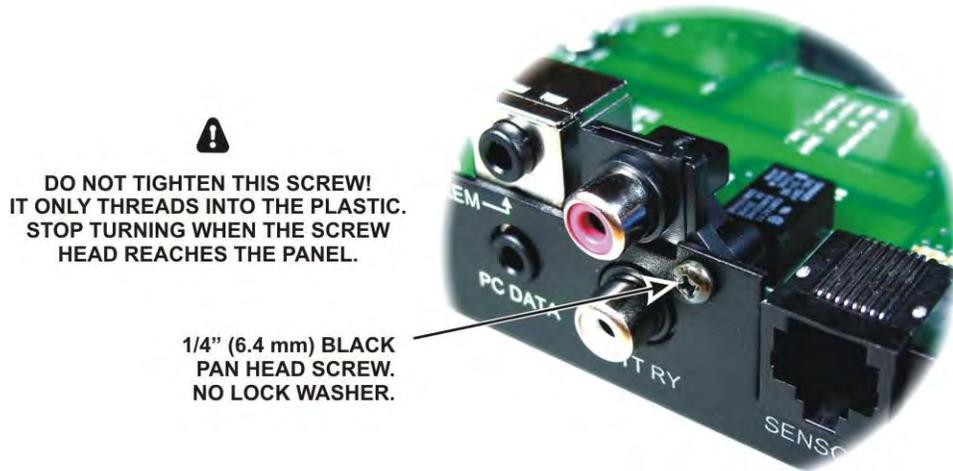

Figure 8. Installing PTT RY Connector Screw.
- Make a final check of all the external case screws to ensure they are tight, **except for the screw at the rear panel PTT RY connectors shown in Figure 8 on page 13.**